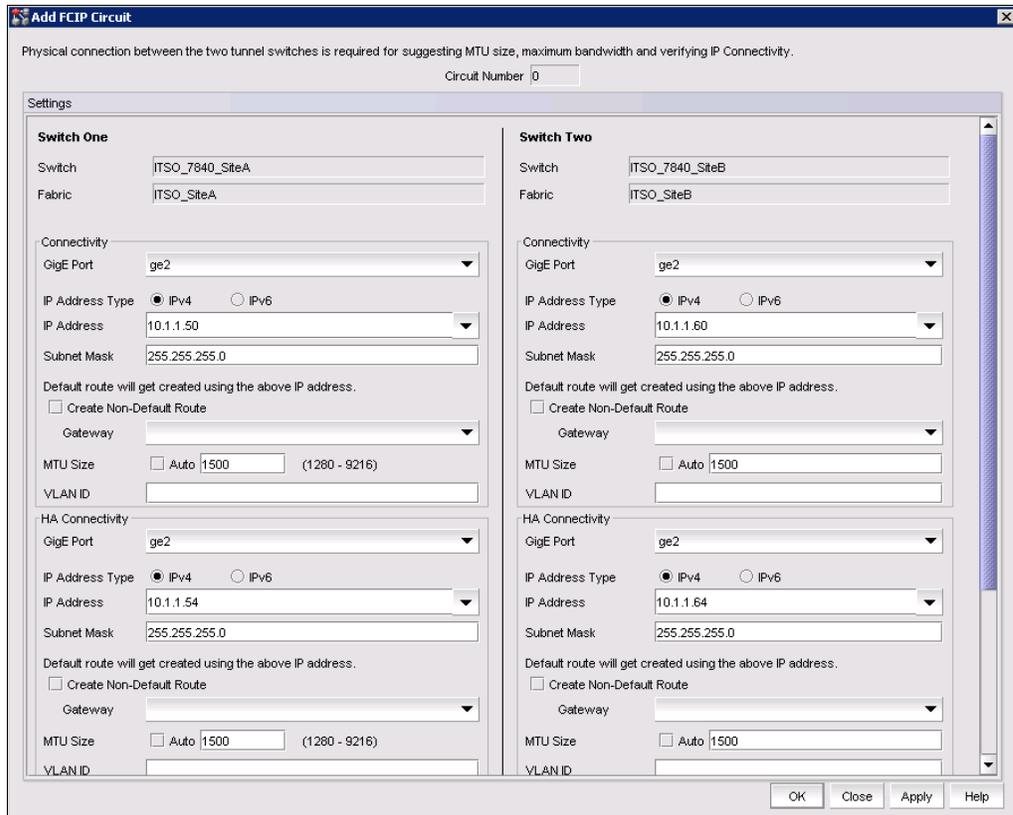

Figure 4-9 Add the first circuit for FCIP Tunnel
7. Here, we created four FCIP circuits for tunnel 34. To add the first circuit (Figure 4-9 on page 117), use the following procedure: